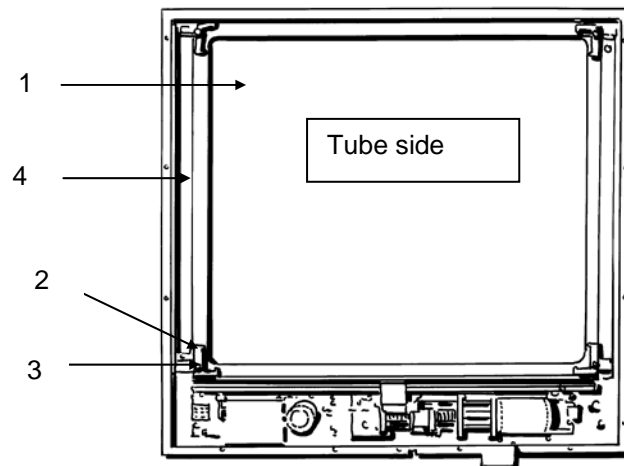

Fig. 2-2 Bucky with grid
- Place the x-ray grid (Figure 2-2, item 1) with marking for the x-ray tube (e.g. x-ray tube symbol) directed to the x-ray tube.
- Fix the grid with four clamping springs (Figure 2-2, item 2) and four nuts (Figure 2-2, item 3) at the movable grid frame of the bucky (Figure 2-2, item 4).
- Remove the grid (Figure 2-2, item 1) by loosening the four nuts (Figure 2-2, item 3) and four clamping springs (Figure 2-2, item 2) from the frame (Figure 2-2, item 4).